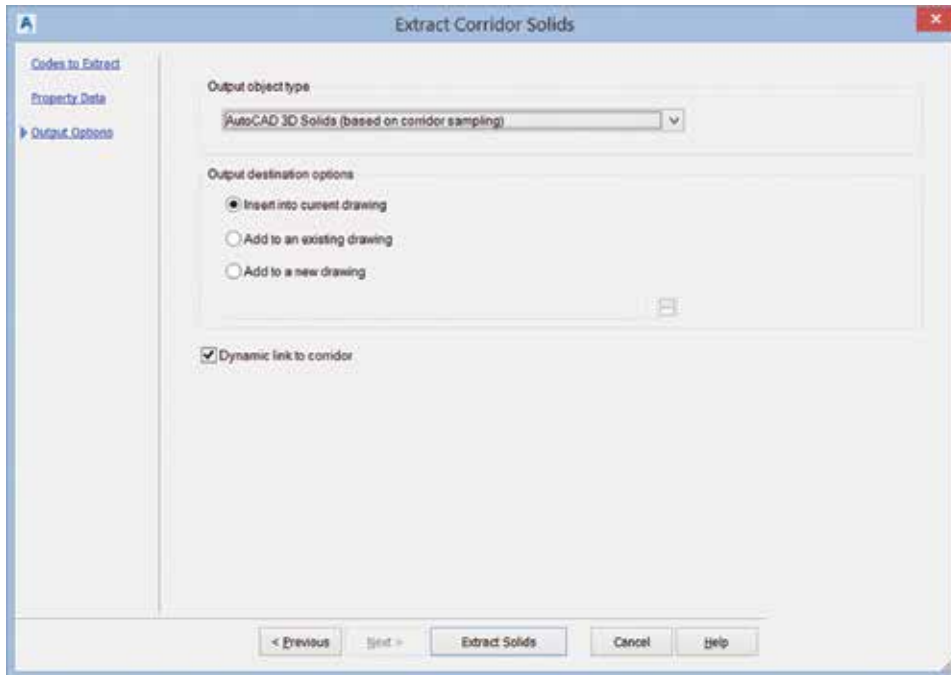
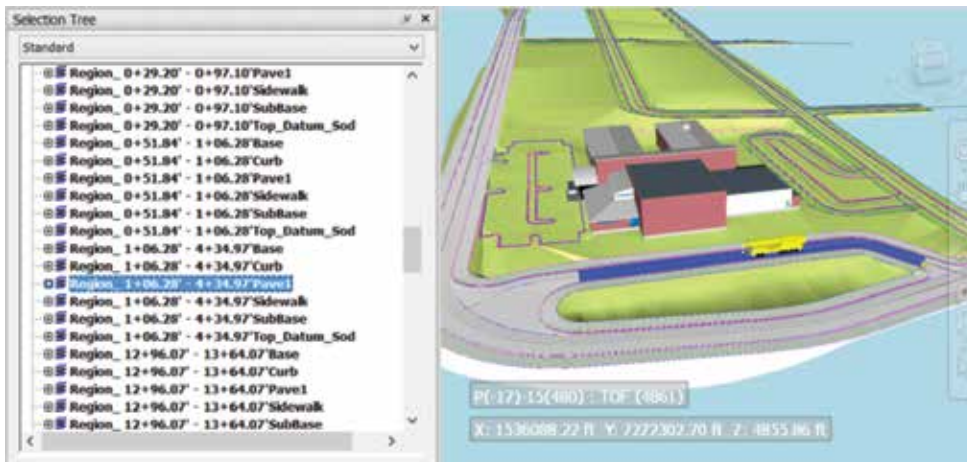

Figure 5: Extract Corridor Solids output options
Figure 6: Corridor solid layers
7. In the Create Solids From Corridor dialog box>Output Options page (shown in Figure 5), make sure that AutoCAD 3D Solids (based on corridor sampling) is selected from the drop-down list. Then select where you would like the solids stored. Choices include:
If you already have a Naviswork model created with the AutoCAD Civil 3D model appended, and you selected the option to Insert the corridor solids into the current drawing, as shown in Figure 5, then all you need to do is refresh the Navisworks model. The result of all this is that each of the corridor solids become its own layer. In Navisworks each solid is listed by layer in the Selection tree, as shown in Figure 6.